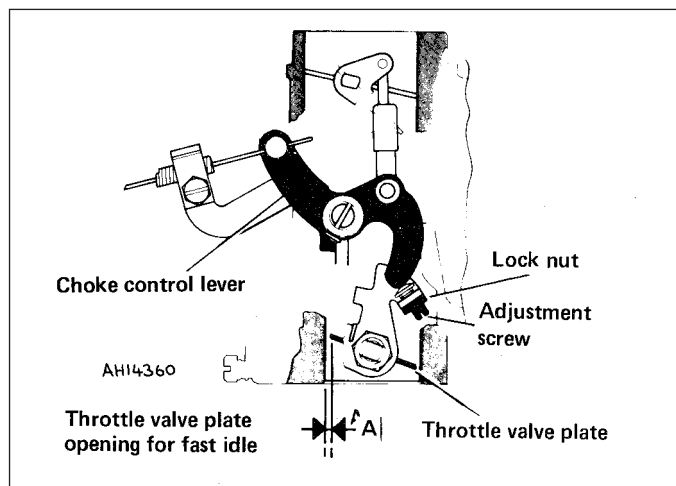

Fig. 3.12 Fast idle adjustment diagram (Weber 32 ICEV 50/250) (Sec 9)
2 The fast idle adjustment procedure is identical, but note that dimension (A) (Fig. 3.12) should be between 0.85 and 0.90 mm (0.033 and 0.035 in).